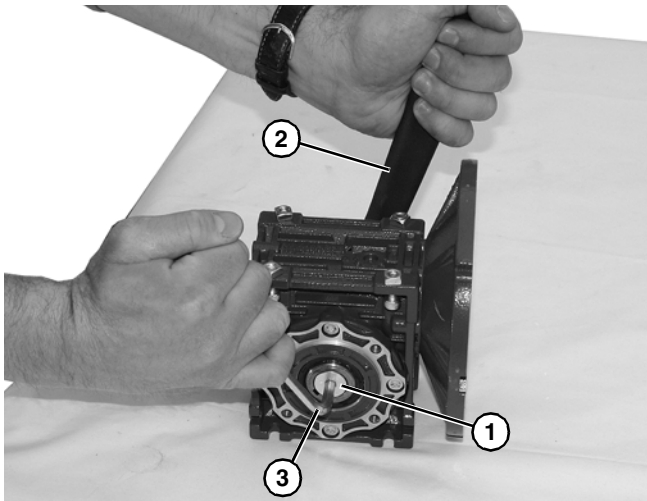

Figure 22
2. Loosen driveshaft bolt (**Figure 22, item 1**).
3. Hold the driveshaft with a wrench (**Figure 22, item 2**) as shown to keep shaft from turning, while removing screw with hex wrench (**Figure 22, item 3**).
8. Hold the driveshaft with a wrench (**Figure 22, item 2**) as shown to keep shaft from turning, while installing screw with hex wrench (**Figure 22, item 3**). Tighten capscrew to 100 in-lb (11.5 Nm) for 42CZ or 350 in-lb (39.5 Nm) for 52C, 63B5 and 71B5.